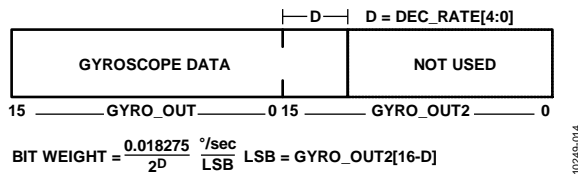
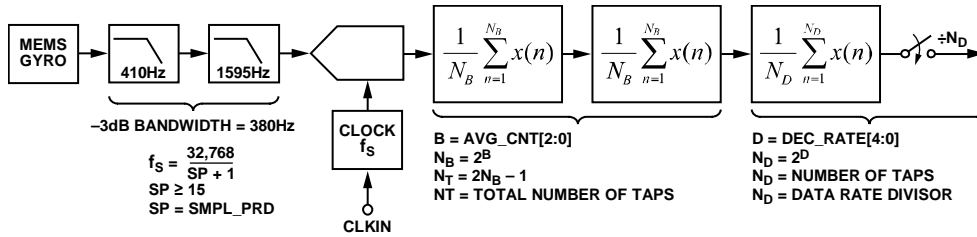

Figure 14. Gyroscope Output Format, DEC_RATE[4:0] > 0
Figure 18. Sampling and Frequency Response Block Diagram
The GYRO_OUT2 register (see Table 11) captures the bit growth associated with the decimation and FIR filters that are shown in Figure 18 using a MSB justified format. The bit growth starts with the MSB (GYRO_OUT2[15]), is equal to the decimation rate setting in DEC_RATE[4:0] (see Table 18), and grows in the LSB direction as the decimation rate increases. See Figure 14 for more details.
Figure 18 provides a block diagram for the sampling and digital filter stages inside the ADIS16136. Table 15 provides a summary of registers for sample rate and filter control.
| [15:0] | Clock setting bits; sets f_s in Figure 18 |
The AVG_CNT register (see Table 17) provides user controls for the low-pass filter. This filter contains two cascaded averaging filters that provide a Bartlett window FIR filter response (see Figure 18). For example, set AVG_CNT[7:0] = 0x04 (DIN = 0xA004) to set each stage to 16 taps. When used with the default sample rate of 1024 SPS, this establishes a -3 dB bandwidth of approximately 24 Hz for this filter.
| [2:0] | Binary; B variable in Figure 18; maximum = 110 (6) |
The DEC_RATE register (see Table 18) provides user control for the final filter stage (see Figure 18), which averages and decimates the output data. For systems that value lower sample rates, this filter stage provides an opportunity to lower the sample rate while maintaining optimal bias stability performance. The -3 dB bandwidth of this filter stage is approximately one half the output data rate. For example, set DEC_RATE[7:0] = 0x04 (DIN = 0xA204) to reduce the sample rate by a factor of 16.
| [4:0] | Binary; D variable in Figure 18; maximum = 10000 (16) |